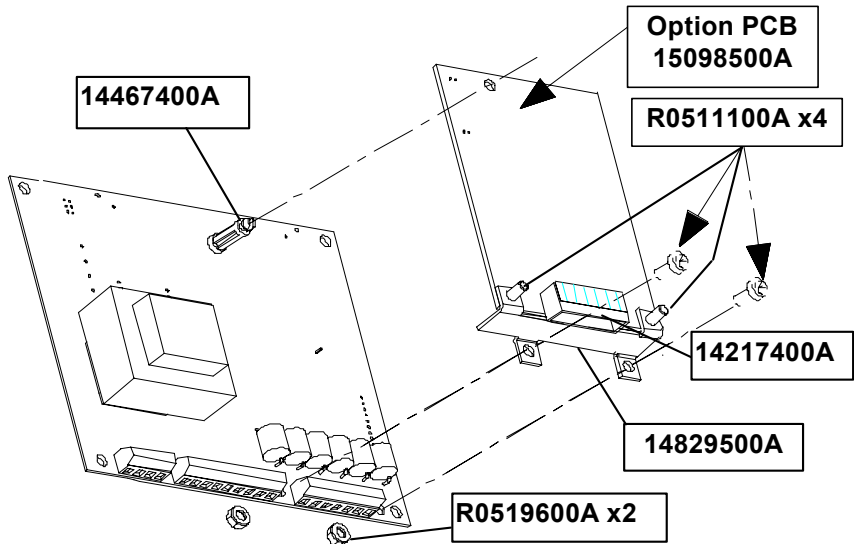

Figure 5-1 Allen-Bradley PCB Installation in Harsh Environment Enclosure
5. Press the snap-in standoff (14467400A) into the Controller PCB (see Figure 5-1).